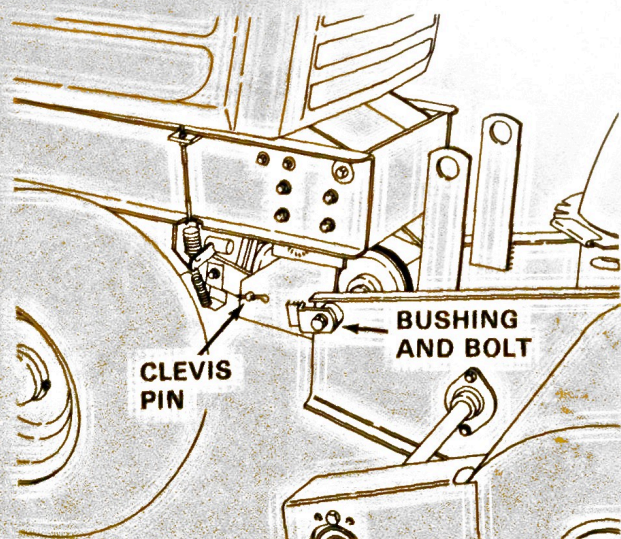

FIGURE 10
7. See Figure 10. Insert the bushings into the snowblower mounting holes. Align the snowblower with the mounting bracket and secure with the bolts provided.